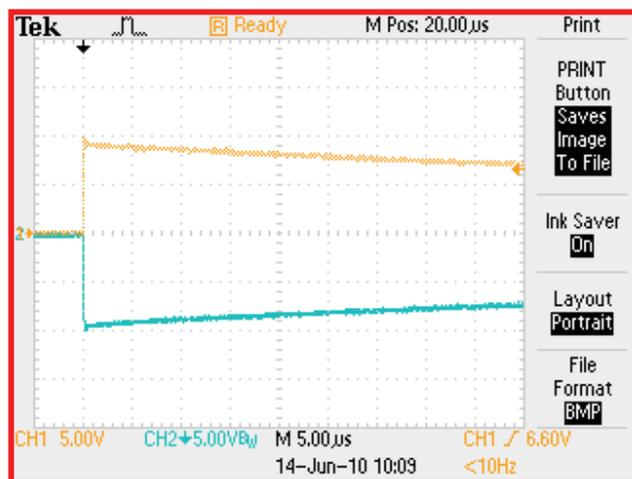

Figure 6.0-5: Differential voltage set up waveform
4. Initiate a discharge by either depressing the DISCHG switch on the front panel or by activating the foot switch.  $\Delta V$  testing can only be performed in the Manual mode. Observe the waveform. It should look similar to that shown in Figure 6.0-5. If the signal is off scale change the vertical sensitivity of both channels and repeat the measurement.